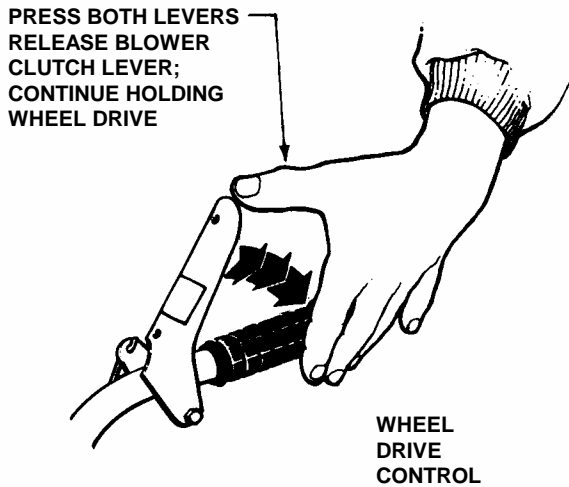

FIGURE 2.1
2.1.3. Check auger/impeller control and wheel drive control to insure cables are connected and both levers operate freely. See Figure 2.1.